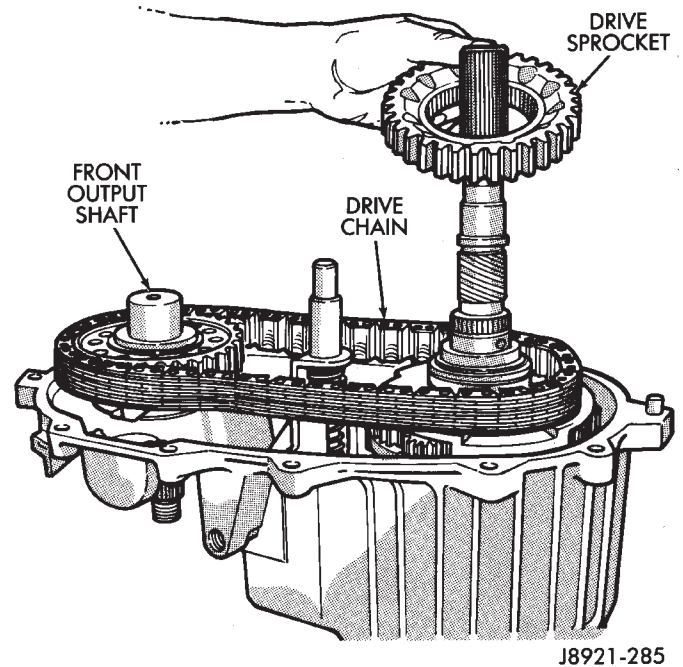

Fig. 83 Drive Chain And Sprocket Installation
- (1) Install front output shaft (Fig. 83).
- (2) Install drive chain (Fig. 83). Engage chain with front output shaft sprocket teeth.
- (3) Install drive sprocket (Fig. 83). Engage drive sprocket teeth with chain. Then engage sprocket splines with mainshaft splines.